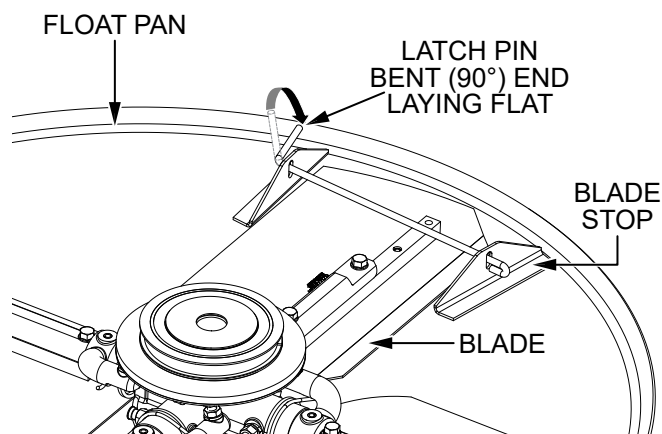

Figure 19. Latch Pin Placement
4. After it has been routed through the blade stop holes, rotate each latch pin so the end that is bent approximately 90 degrees lays flat on the surface of the float pan. See Figure 19.